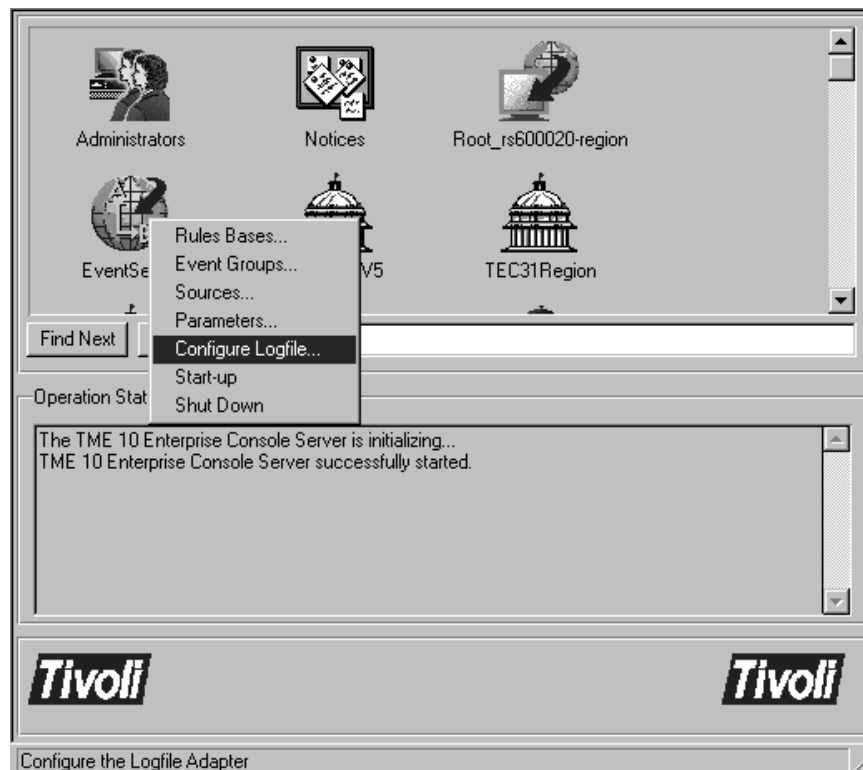

Figure 62. TME Desktop for Administrator
- From the Administrator desktop, right click on **EventServer** icon to get the pull-down menu and select **Configure Logfile...** (see Figure 62 on page 147).